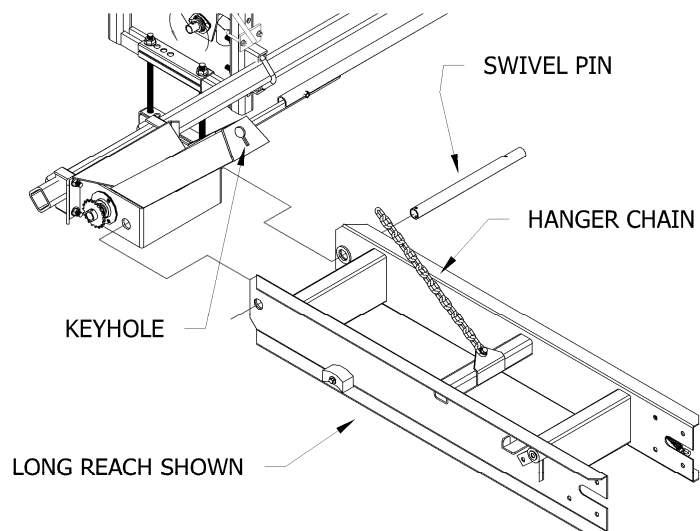

Figure 3
3. INSTALLING REACH. (Figure 3)